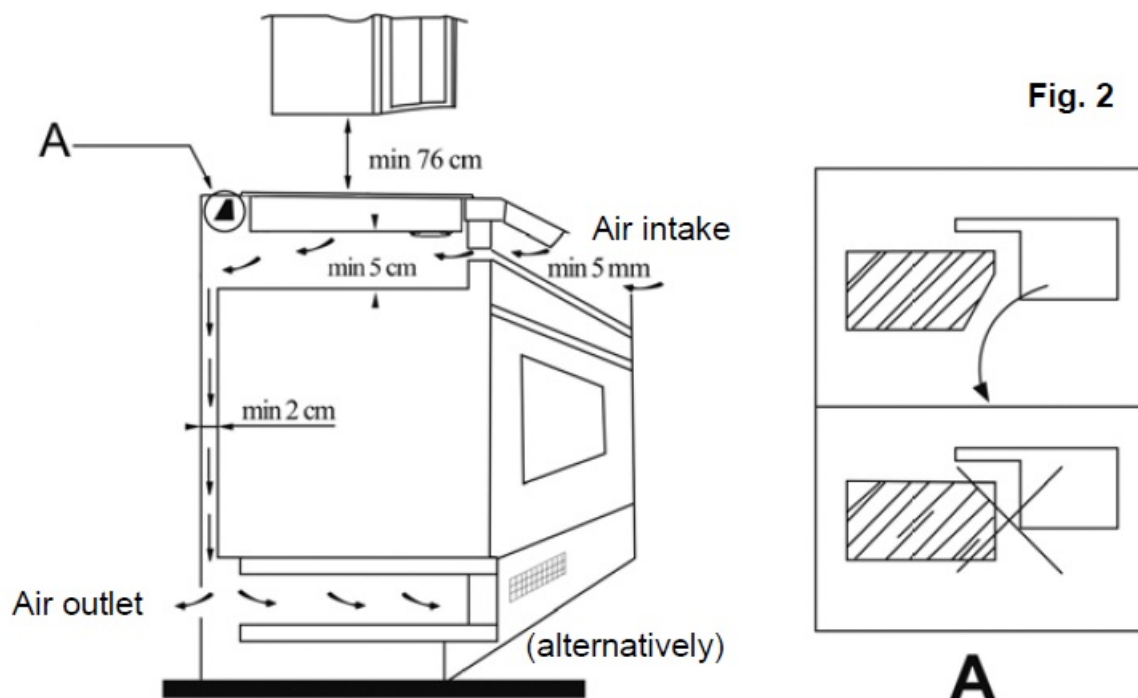

**Fig. 1**
3. Cut out an opening in the counter top as shown in the following drawing. (Fig. 1)
4. Alternatively to the way shown above, the induction cooker can be installed in level with the surface of the counter top if the surface is made of stainless steel or other material which is resistant to high temperature. (Fig. 1)